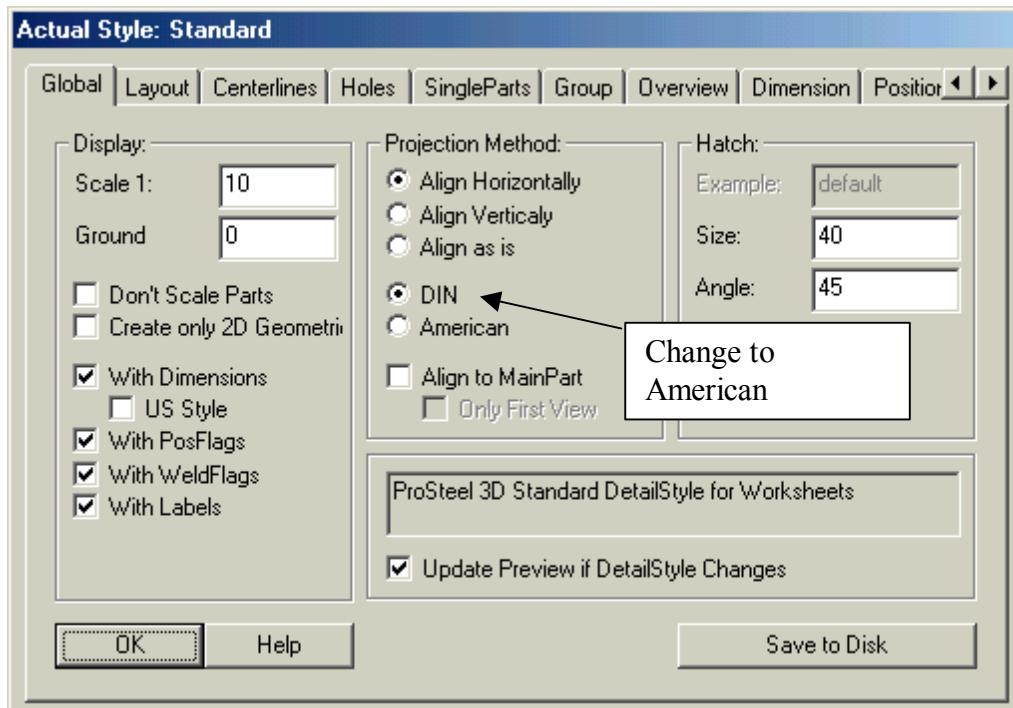

Fig. 17
3. Once they are loaded, double click on the style that you want to edit. The style will now look like Fig. 17 with the name of the style up the top. I have chosen Standard. The first to edit is to change the selection from DIN to American. This will change to drawing views from 1st Angle projection to 3rd Angle projection. This will need to be completed for all styles. Another thing to be carried out is to tick “*Update Preview if Detail Style Changes*”
11. Fig. 17 above shows us that the members will be placed horizontally on the drawing. You could place them vertically for columns or Align as is for rafters, this will place the details the same angle rotations as they are in the model from the base. You could leave them all as “*Align as is*” if you wanted to and they would come in as per the model i.e. columns vertical and beams horizontal. You would probably want your sub parts i.e. base plates cleats etc to be horizontal therefore they would have to be placed on a separate detail style. This can be done easily in the “*Detail Centre Express*” but also can be done manually.